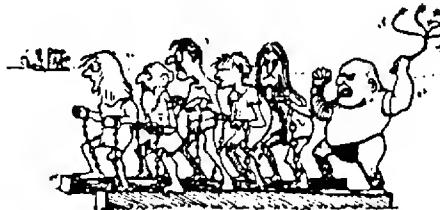

Figure 421 The Trolley
63. The Trolley: The object is to move a group of eight (variable) people over a poisoned yogurt area utilizing two 4" x 4" x 10' planks which have 16 three foot chain-festooned lengths spaced on the 4 x 4 as shown in Figure 421.